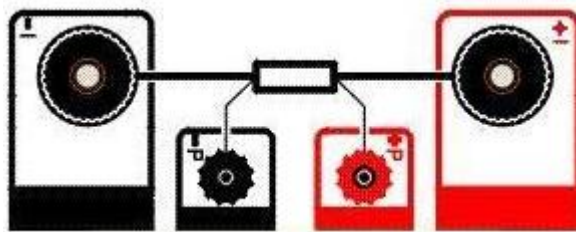

Figure 1
The MC2 utilizes a 4 wire measuring technique. The Two (2) connections on the front plate marked +I & -I are the current leads. The Two (2) connections on the front plate marked +P & -P are the Potential or Voltage leads. By connecting a test specimen to the Current leads (See figure 1) and applying the Potential leads across the resistance to be measured. The points where the potential leads are connected determine the resistance reading.